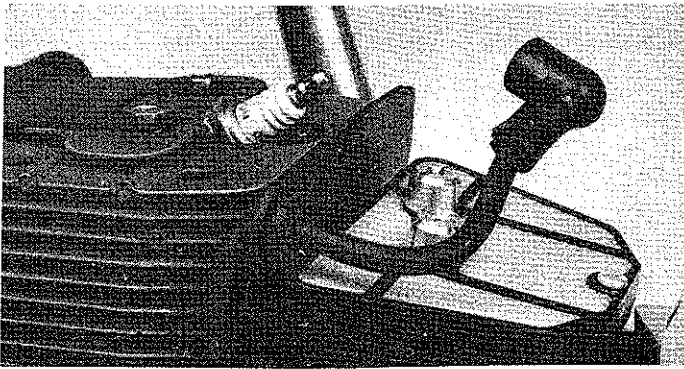

Figure 14
1. Remove the cylinder cover and the high tension lead from the spark plug to prevent accidental starting of the saw. Figure 14.